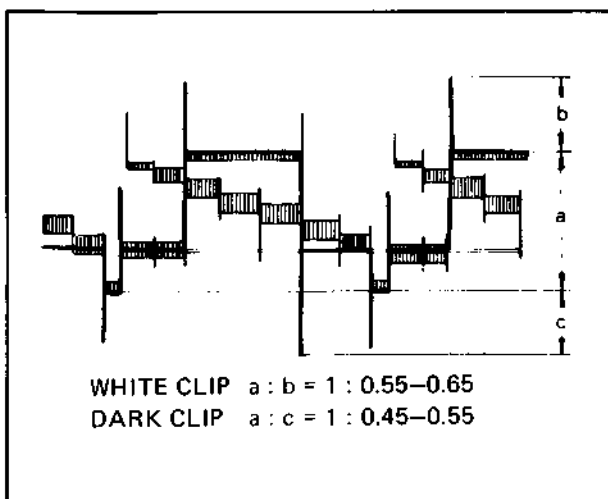

Fig. 5-21 White and dark clip adjustment
- Adjust R12 (WHITE CLIP), so that the amplitude ratio of transient "spikes" with white clip becomes as shown in Fig. 5-21.
- Adjust R26 (DARK CLIP), so that the amplitude ratio of the transient "spikes" with dark clip becomes as shown in Fig. 5-21.